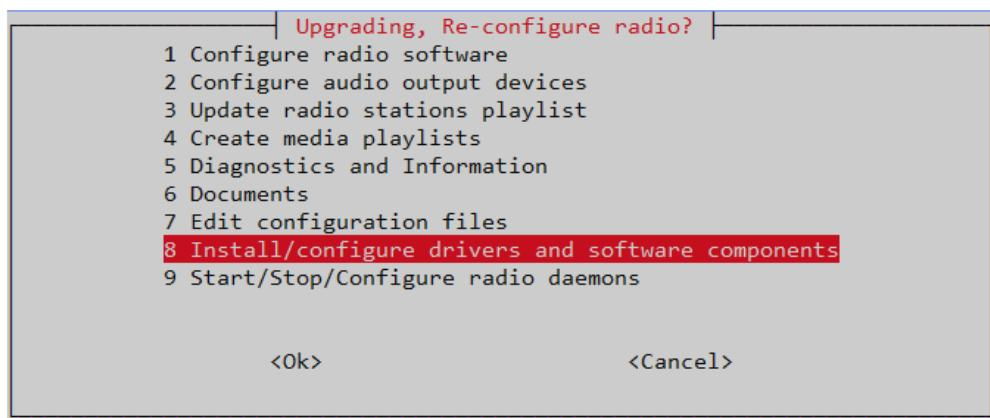

Figure 193 The radio-config menu
- Select option **6 Documents and Tutorials** from the **radio-config** menu shown in *Figure 193 The radio-config menu* on page 139.
- Select option **8 Install/configure drivers and software components** from the **radio-config** menu shown in *Figure 193 The radio-config menu* on page 139.
- Select option **1 Install IR remote control** from the **radio-config** menu shown in *Figure 193 The radio-config menu* on page 139.